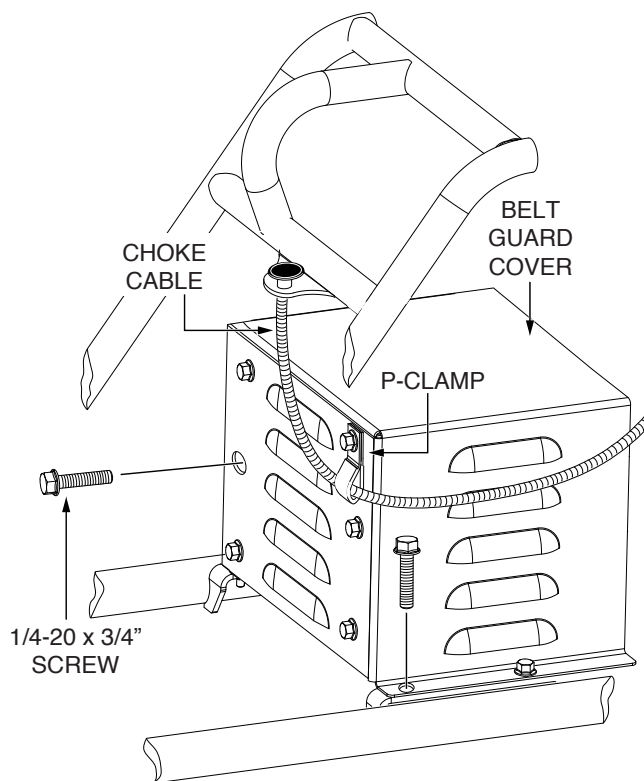

Figure 3. Belt Guard Removal
1. Remove the P-clamp (Figure 3) securing the choke cable to the belt guard. Set the P-clamp aside in a safe place and move the choke cable out of the way.
2. Using a 7/16" wrench, remove the 1/4-20 x 3/4" retaining screws (10) securing the belt guard panels. Set the panels and retaining screws aside in a clean safe place. See Figure 3.